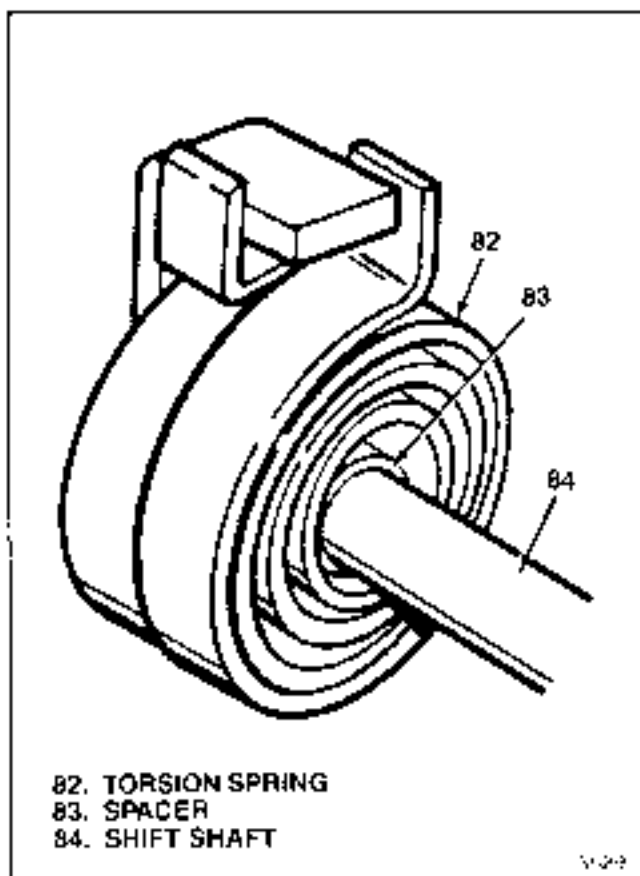

Figure 5-9. Completing Spring Assembly
d. Push torsion spring (82) and spacer (83) together back as far as they will go (see figure 5-9).
e. Slide electric shift cam (81) onto shift shaft (84), drive tang on cam first. Position drive tang on cam so that it will go under drive tang on shift shaft and between spring ends and slide cam as far as it will go.
f. Defer installing of completed electric shift cam assembly (81) through (84) in transfer case assembly until after shift forks are installed (paragraph 5-13).